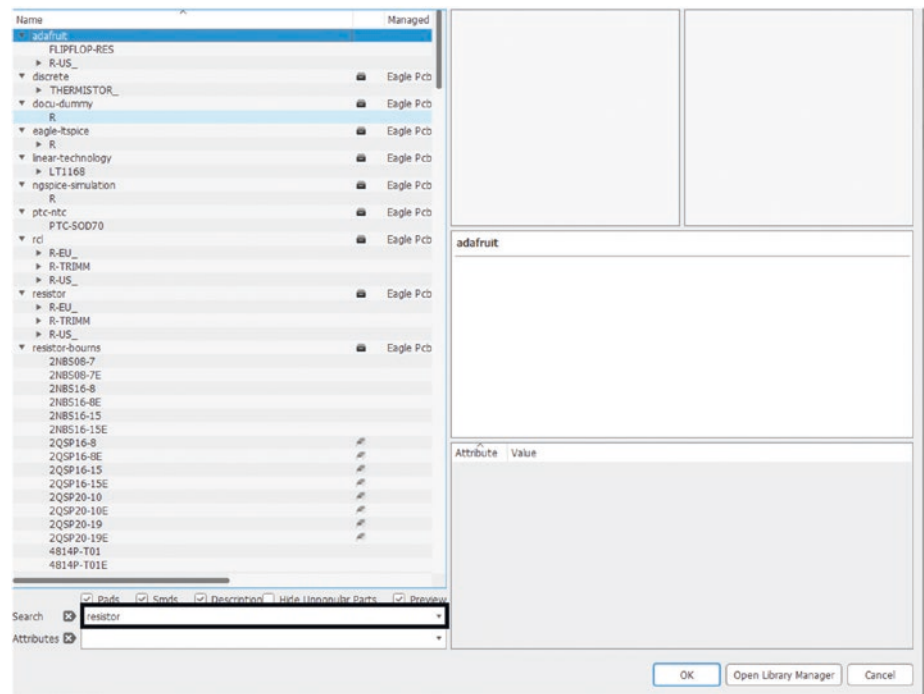

Figure 5-38. Search resistor
25. Click the ADD button again and type in resistor into the search box and press enter. See Figure 5-38.